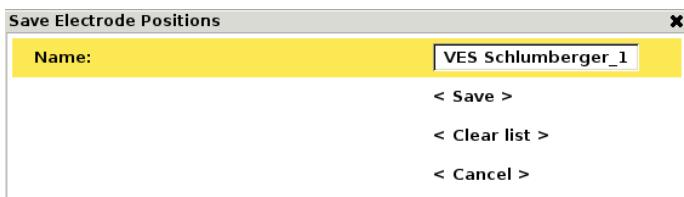

Figure 76 VES Electrode Positions save dialog
- Press <OPT> to bring up the *Save* dialog (Figure 76)